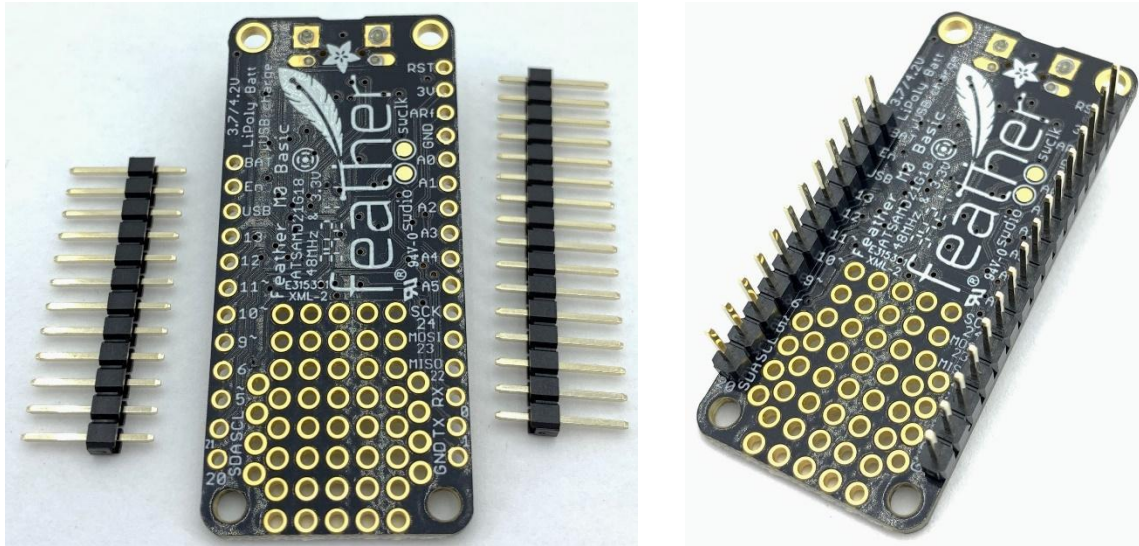

Figure 16: Feather M0 bottom with separate headers (left) and assembled (right).
- 1) Insert the short end of the male header pins into the Feather M0 board from the bottom (Figure 16, right).